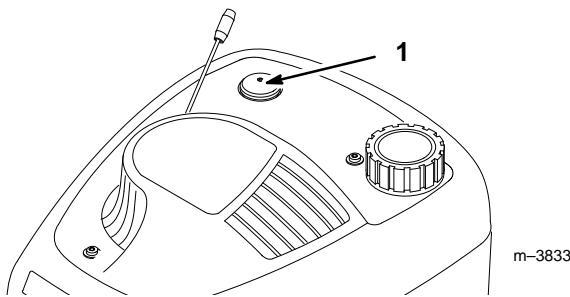

Figure 14
2. Push primer three (3) times (Fig. 14). Wait about two (2) seconds between each push.